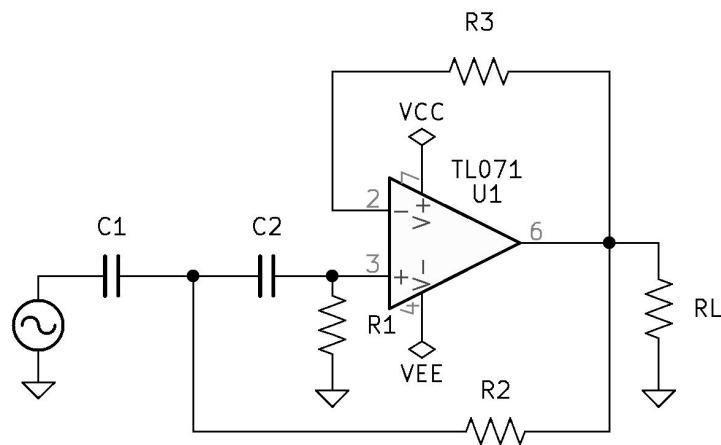

Figure 8.7: High-Pass Second-Order Active Filtering Circuit.
1. See Figure 8.7 *High-Pass Second-Order Active Filtering Circuit* on page 91.